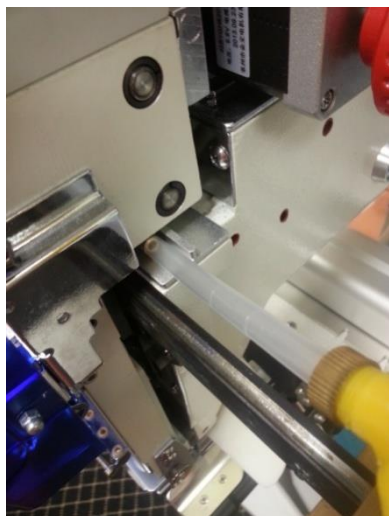

Figure 85 Oil Track Needle Bar Case
5. Once a week, oil the track of the needle bar case (Fig. 85).